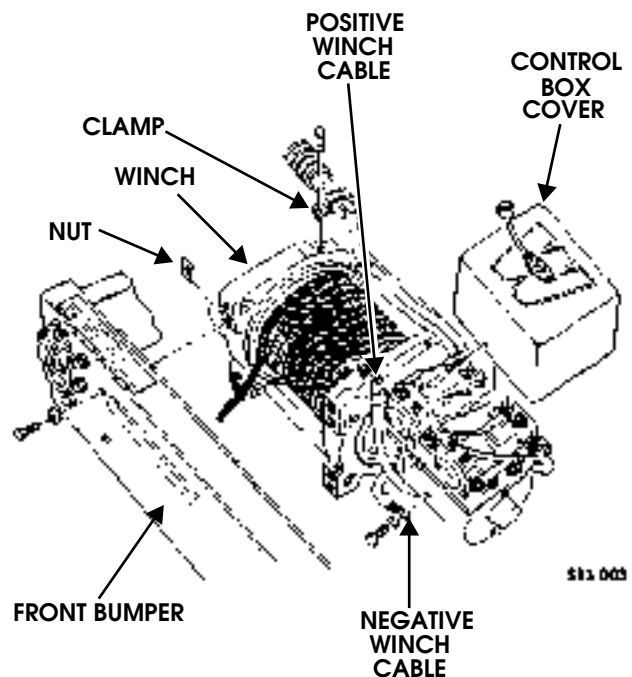

Figure 9-160: Winch and Winch Cables
4. Remove four nuts, washers, bolts, and winch from front bumper (Figure 9-160).
1. Install positive winch cable on winch with locknut (Figure 9-160).